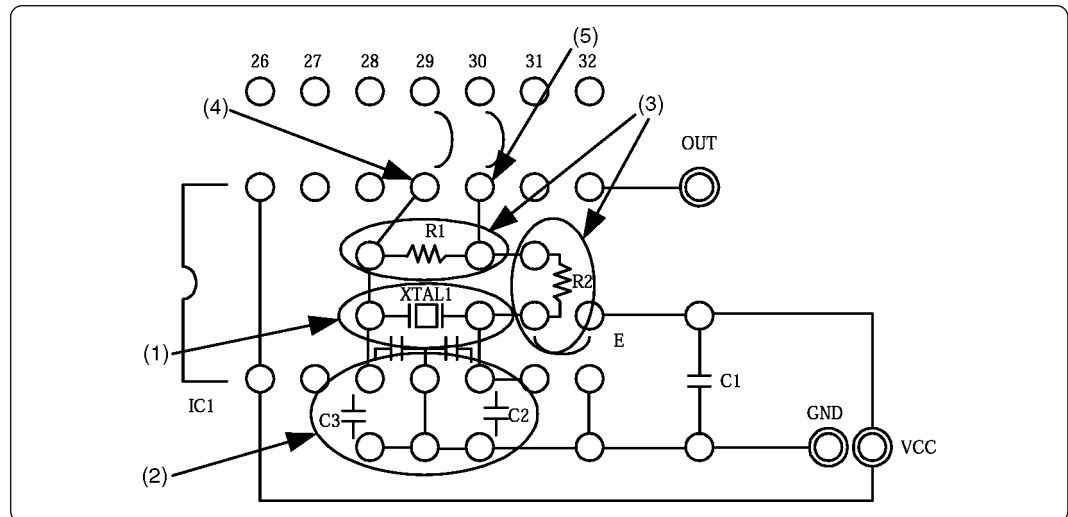

Figure 3 Connections when not using the IC1
(2) When the IC1 (oscillator module) is not used
When not using the IC1, follow the procedure below (see (1) to (5) in Figure 3).